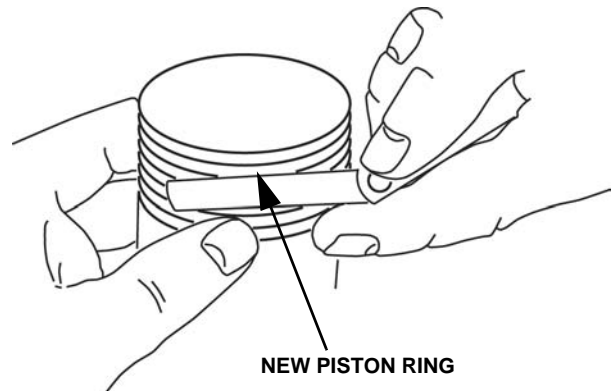

Fig. 75
1. Check side clearance of ring grooves using NEW rings, Fig. 75.